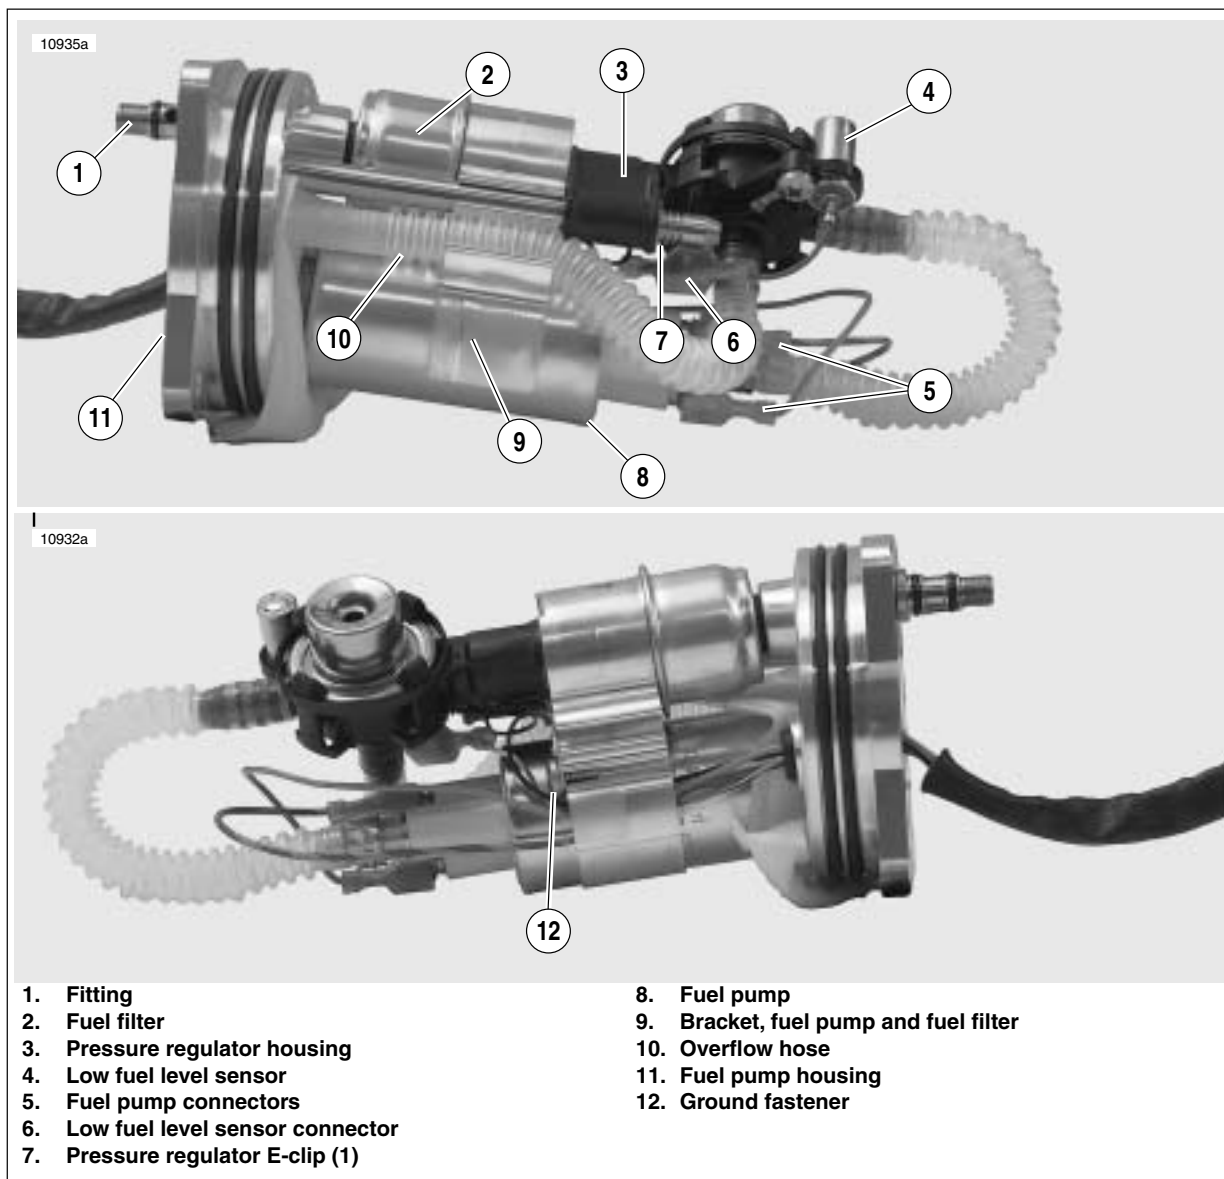
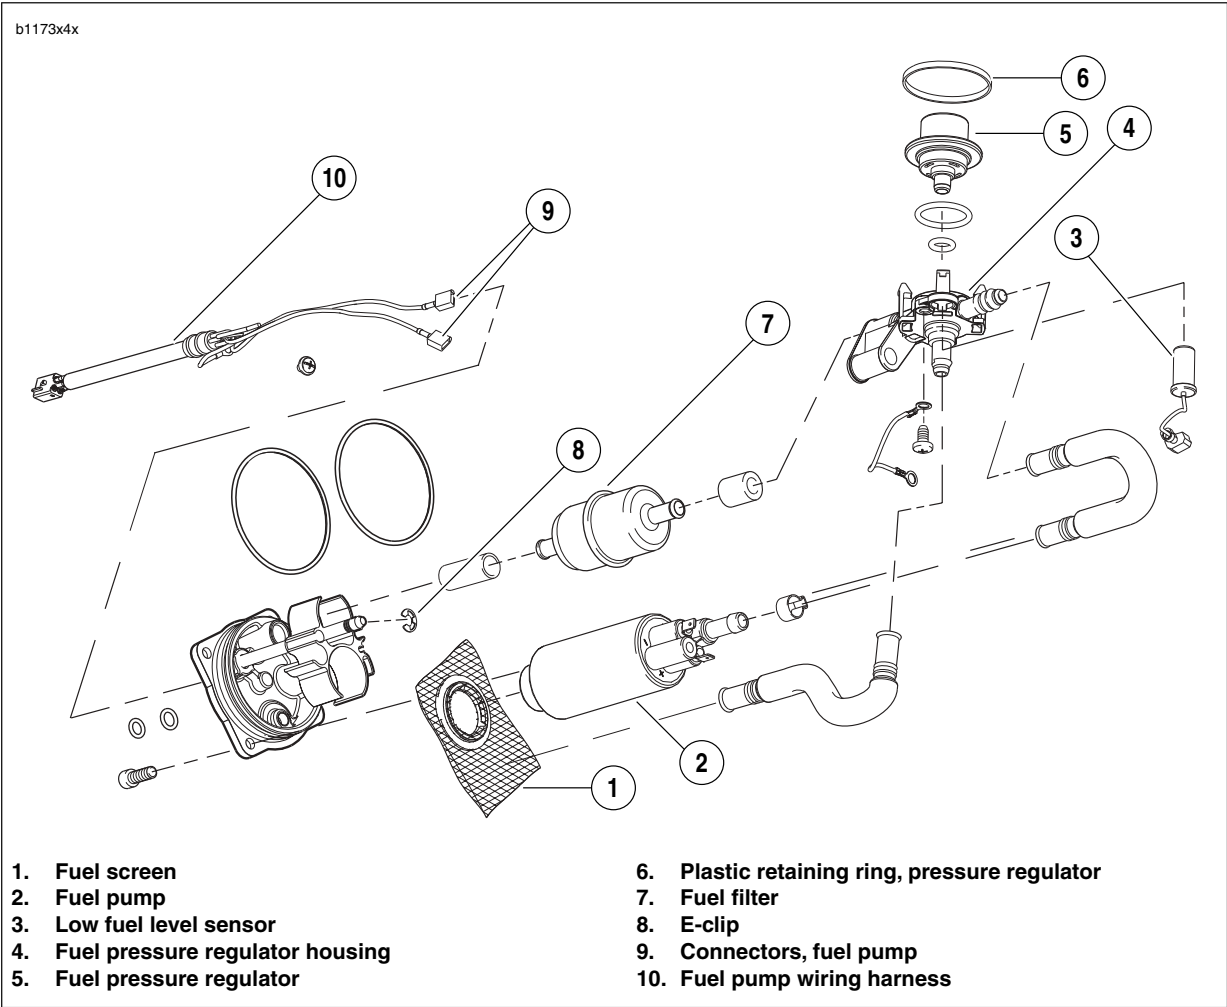

Figure 4-89. Fuel Pump Assembly (Left and Right Sides)
Figure 4-90. Fuel Pump Assembly
2. See Figure 4-89. Disconnect electrical connectors (5, 6).
3. Remove ground fastener (12) from the fuel pump and fuel filter bracket (9).
4. Remove fuel pressure regulator E-clip (7).
5. Pull regulator housing (3) and fuel pump (8) with bracket (9).
6. Remove fuel filter (2).
7. Install rubber seals on **new** fuel filter and install filter into pump housing (11).
8. See Figure 4-89. Install regulator housing (3) and fuel pump (8) assembly.
9. Install E-clip (7) in bottom groove on shaft.
10. Install ground fastener (12) and connect ground wires to bracket (9) and tighten to 18-22 **in-lbs** (2.0-2.5 Nm).
5. Pull regulator housing (3) and fuel pump (8) with bracket (9) as an assembly.
6. See Figure 4-90. Pry fuel screen (1) from fuel pump (2).
8. Install regulator housing assembly (4, 5) and fuel pump (2).
9. Install E-clip (8) in bottom groove on shaft.
10. See Figure 4-89. Install ground fastener (12) and connect ground wires to bracket (9) and tighten to 18-22 **in-lbs** (2.0-2.5 Nm).
2. See Figure 4-89. Disconnect fuel pump connector (5) and low fuel level sensor connector (6).
4. See Figure 4-89. Remove ground screw (12).
8. See Figure 4-89. Insert **new** fastener (12), through ground wire terminal and secure to bracket (9).
10. See Figure 4-89. Connect low fuel level sensor connector (6).
11. Connect fuel pump connectors (5). Connectors are two different sizes.